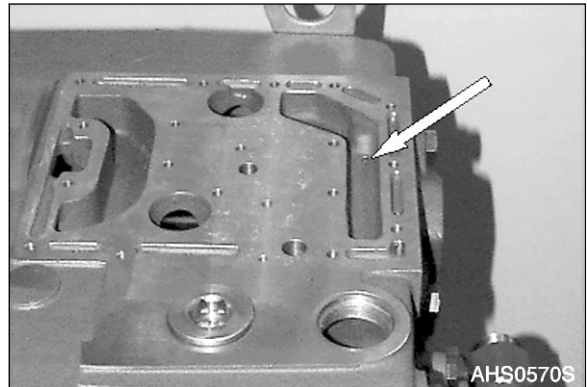

Figure 74
10. Attach Hydraulic control unit (HSG-94) (Figure 74 - Figure 84).
A. Screw orifice into the housing bore (Figure 74) and secure it using center punch.